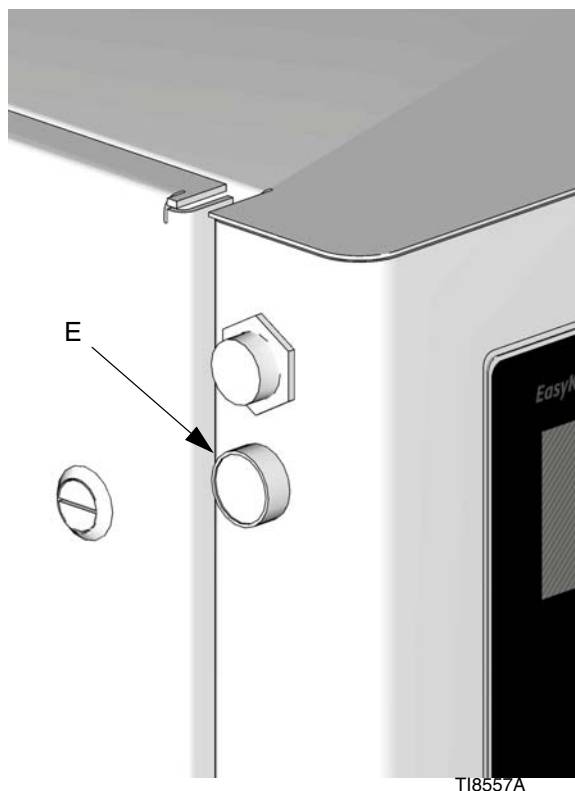

FIG. 41: Maintenance Call Kit
The maintenance call kit is designed for the user to indicate an issue has occurred and needs to be addressed, but the unit keeps operating if no serious faults have occurred. With the optional light tower kit the maintenance call button (E) causes the yellow light to flash making the problem more obvious. See FIG. 41. This kit includes the pushbutton actuator and internal harness to connect the button. For additional light tower information see **Light Tower Kit (253547)** on page 53.